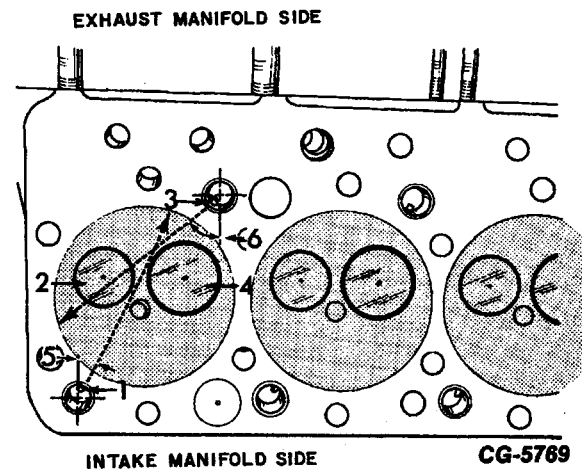

Figure 4.25. Aim Coolant Directors
3. Prior to driving in coolant directors, they must be aimed. Coolant directors on the intake manifold side must be aimed at the valve bridge area, while those on the exhaust manifold side must be aimed at the exhaust valve. Refer to **Figure 4.25**.